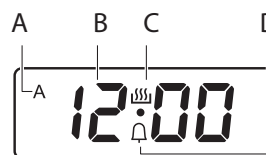

Figure 6: Clock Display Functions
- When the time ends, the function's indicator on the display will start flashing, the Timer Activate Indicator icon (C in figure 6) will go off, and a signal will sound for two minutes. Press any button to stop the signal.